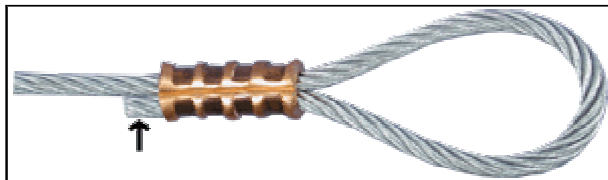

**FIGURE 1**
2. PLACE SLEEVE TO BE COMPRESSED IN PROPER SIZE GROOVE IN SWAGING TOOL AS SHOWN IN FIGURE 1. LENGTH OF CABLE EQUAL TO THE CABLE DIAMETER SHOULD EXTEND BEYOND LENGTH OF SLEEVE TO ACHIEVE MAXIMUM HOLDING. (SEE ARROW IN FIGURE 3).